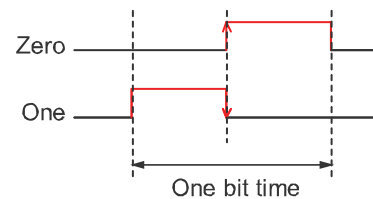

Figure 6. Manchester Coded Data
2. It always has a transition at the center of every bit (Figure 6). This certainty of a transition simplifies the decoder’s task of recovering the encoder’s clock rate and then actually decoding the data stream.